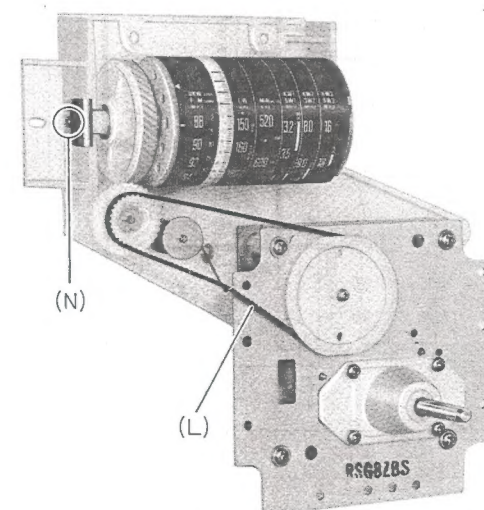

Fig. 12
- \* 4. Set the dial scale at the position, as shown in fig. 12.